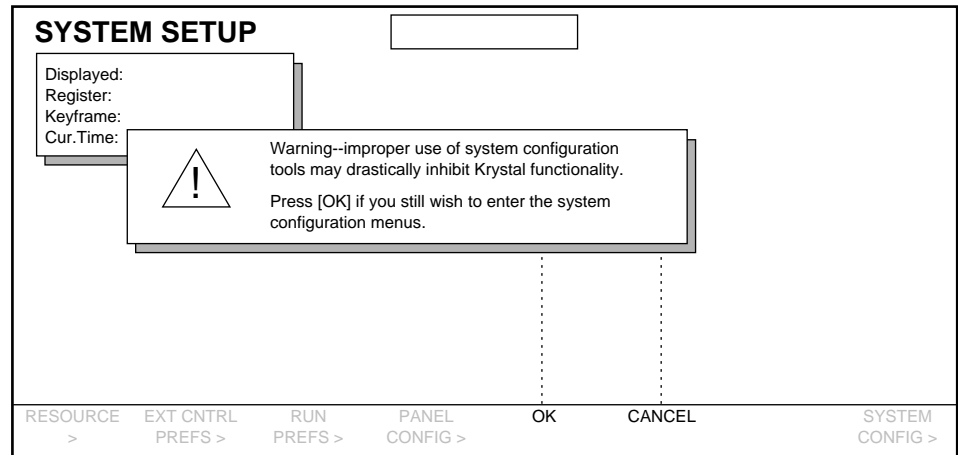

Figure 3-10. System Setup Warning Message
1. Press the System Setup top menu button to display the System Setup menu, then press the SYSTEM CONFIG > soft button. A warning appears (Figure 3-10).